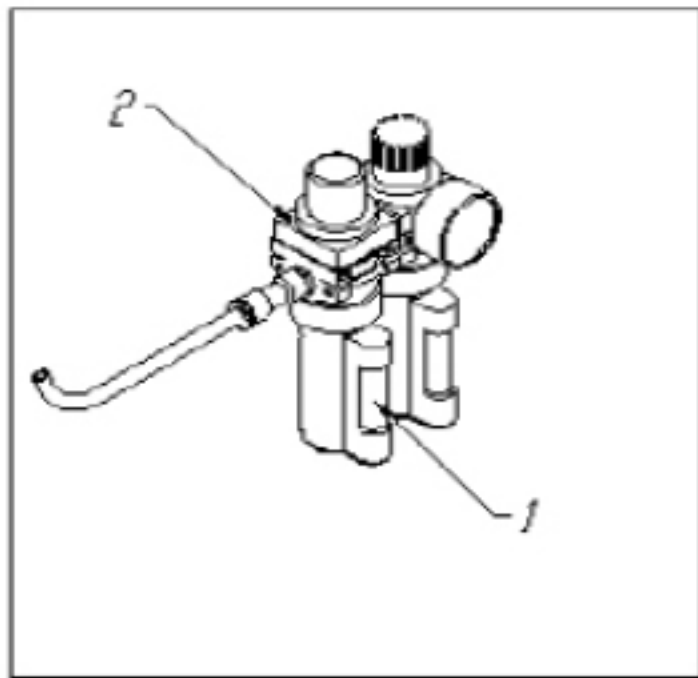

Figure 5-1
- a. Check the oil level in the lubricator tank. If necessary, fill up by unscrewing screw 1. (Figure 5-1)
- b. Check if there is a drop of oil dripping every 2-3 times the bead breaker pedal is pressed down. If not, adjust the flow by turning screw 2. (Figure 5-1).